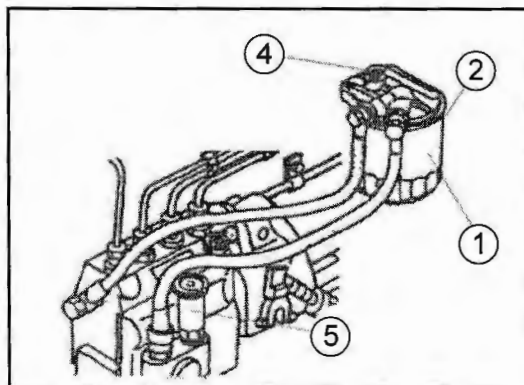

Fig. 39-2 - Changing Fuel Filter
- Remove the used filter element (1) and clean mounting surface (2). (See Fig. 39-2).
- Loosen air vent plug (4) on the fuel filter (by turning it 1 1/2 times). (See Fig. 39-2).
- Unlock priming pump plunger (5) by turning it to the left and operate the pump (just turn the ignition key to "ON" position). (See Fig. 39-2).